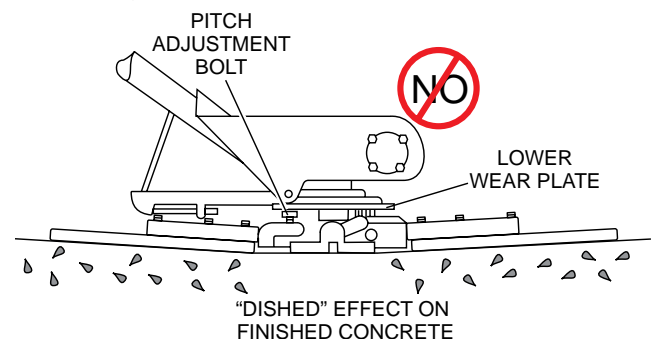

Figure 21. Incorrect Spider Plate Alignment
6. Figure 21 illustrates, “incorrect alignment”, worn spider bushings or bent trowel arms.